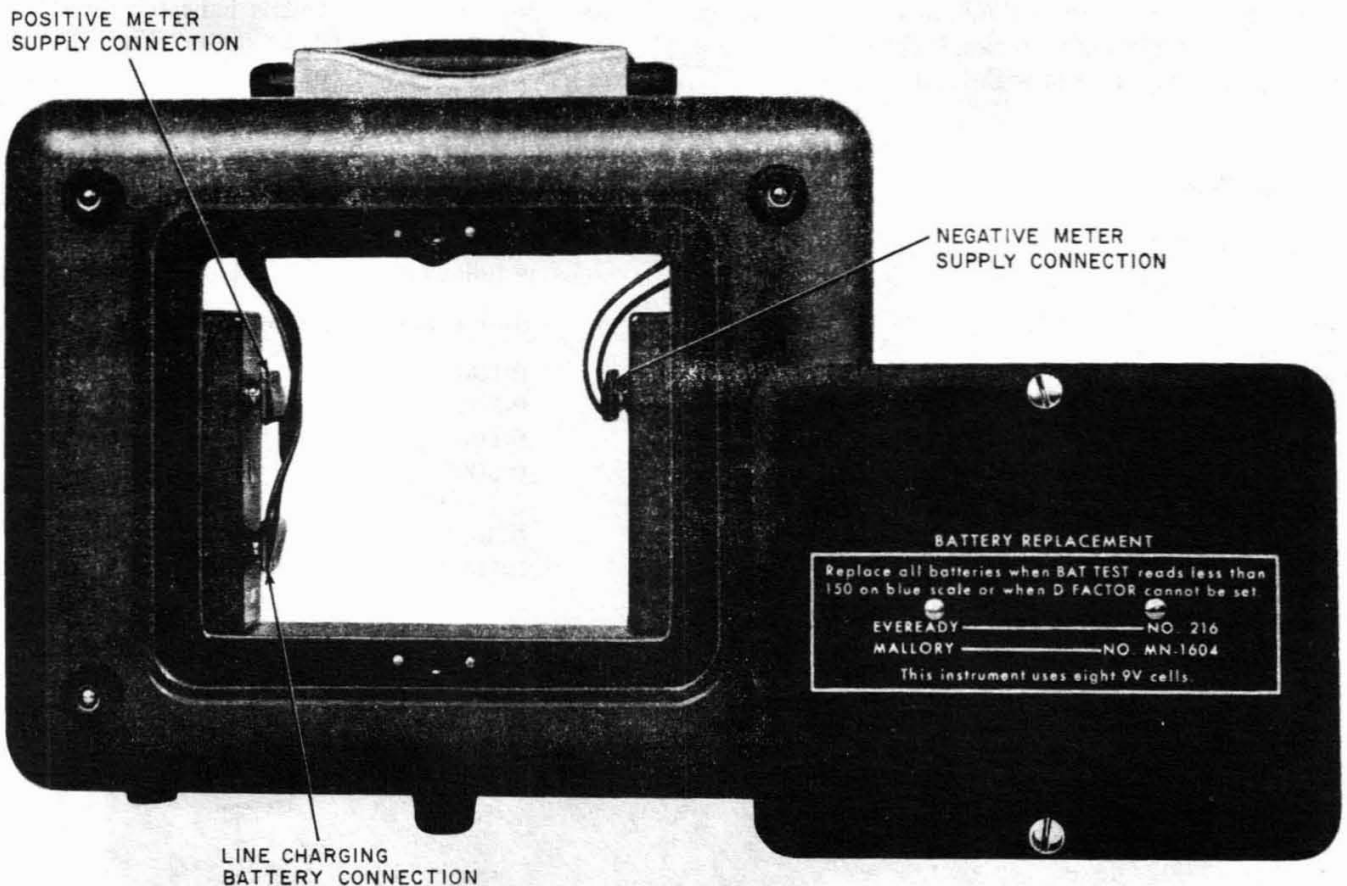

Fig. 3—Battery Compartment
- (c) If the meter reads less than 150, the test set will not operate within specified accuracy. *All* batteries (including the line charging batteries) should be replaced. (Fig. 3)